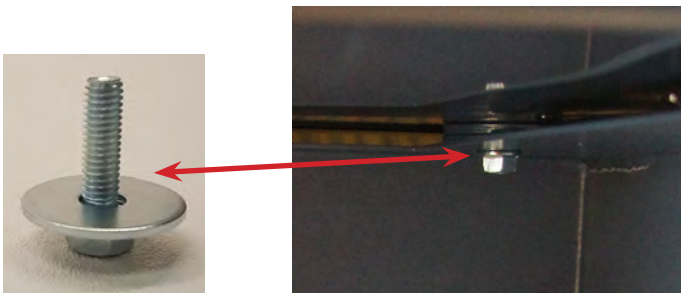

Figure 4
4. Place a washer on each M6 screw (4) provided. Reaching through the back panel opening, hand screw an M6 with washer through each hole in the cart and into the threaded locations on the bottom of the refrigerator. Tighten screws using a 10 mm wrench or adjustable wrench (Figure 4).